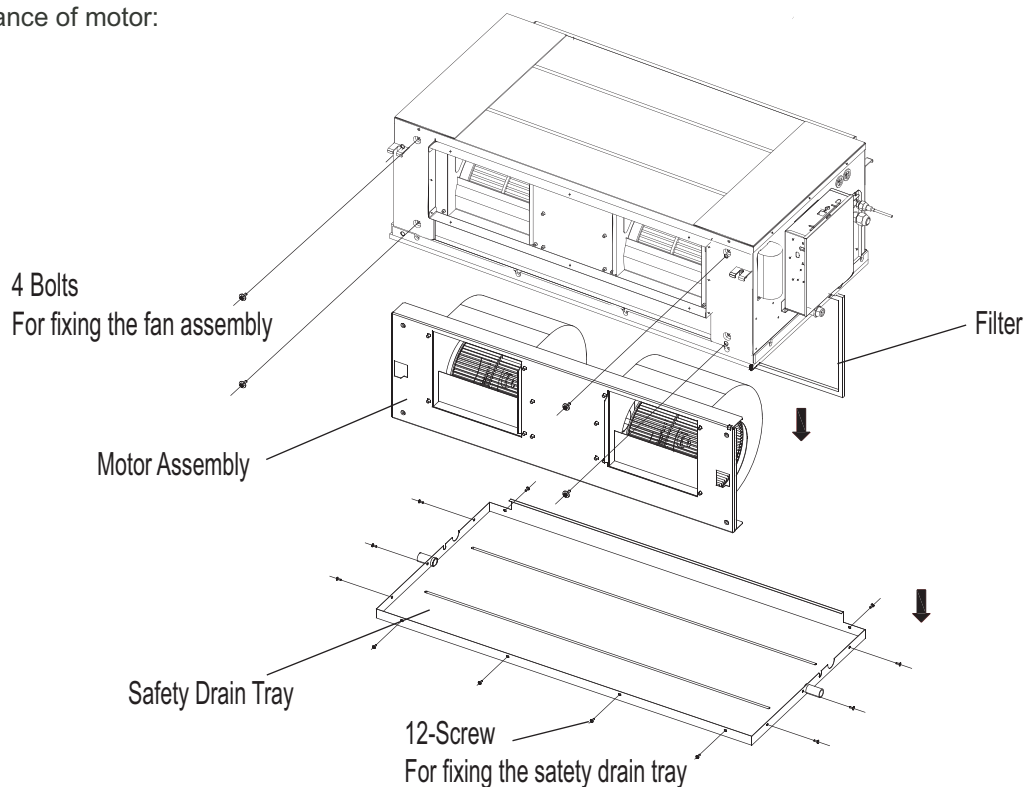
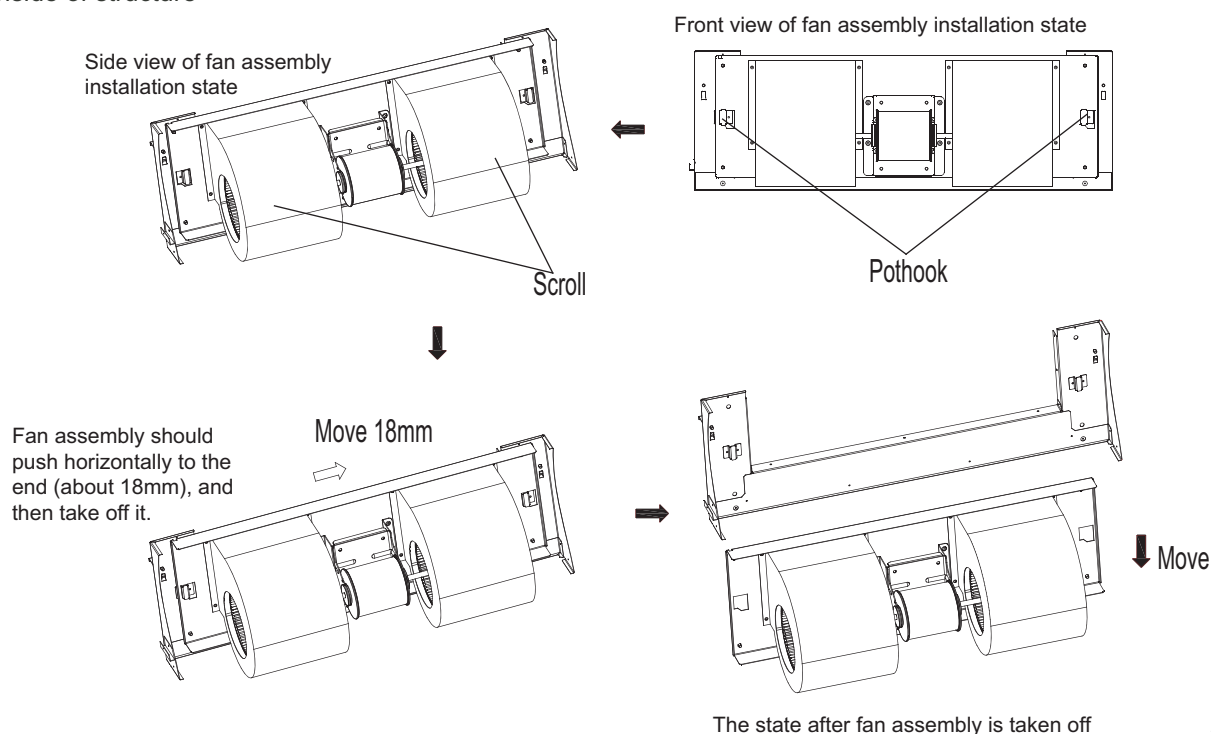

Fig. 4-17
Fig. 4-18
1. Refer to Fig. 4-17, remove all 11 SCREW from safety drain tray, and take off the safety drain tray.
3. Refer to Fig. 4-17, remove all 4 bolts from fan assembly, see Fig. 4-18, according to which orders to take off the fan assembly.
3. Refer to Fig. 4-18, horizontal pushing the fan assembly, until it cannot not move any further, and then lift up slightly and take down to remove it.